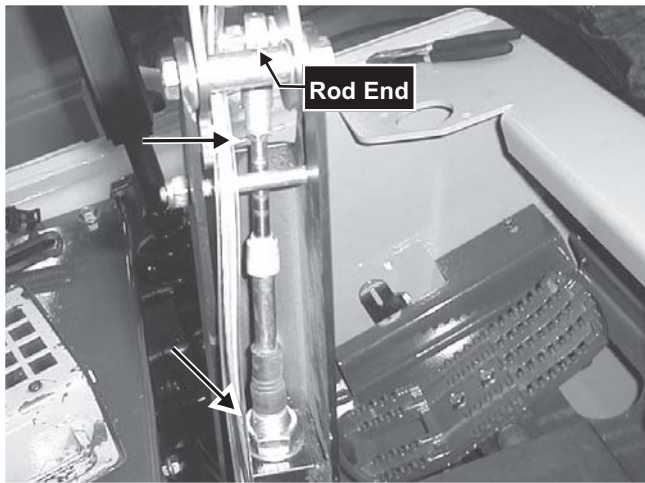

Fig. 6-71 Location of the two jam nuts on the auxiliary hydraulics cable in the control handle.
1. Remove capscrew, locknut and two washers on rod end inside control handle. Loosen jam nut on rod end and remove rod end from cable. **Fig. 6-71**
2. Remove jam nut on cable in lower handle of control handle. **Fig. 6-71**